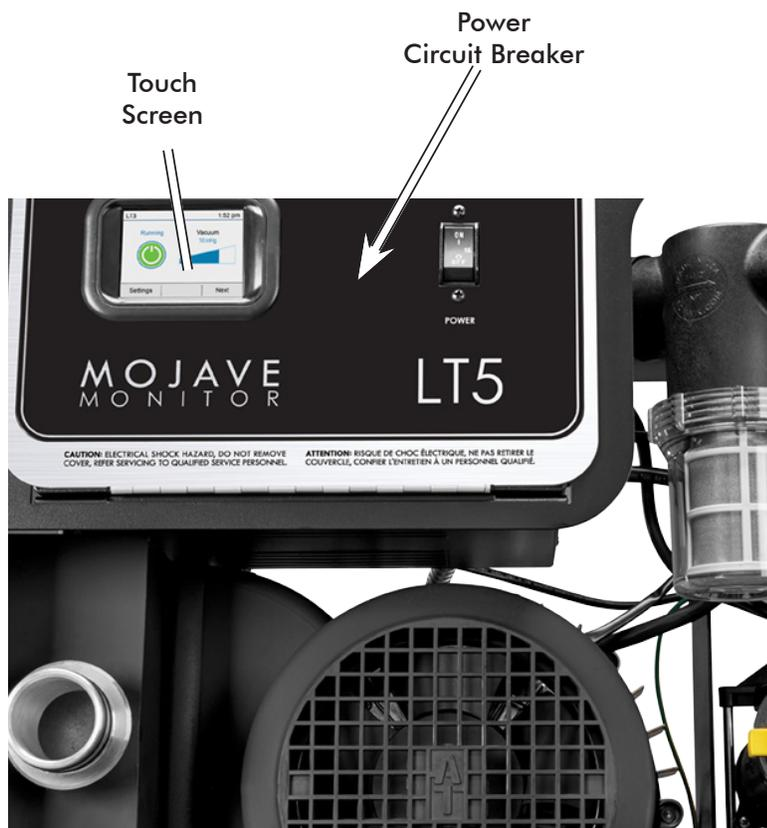

Figure 10. MOJAVE LT Front Panel Controls and Indicators
4. **System Electrical Connections.** Refer to the Electrical Connections section (See Figure 9.) and connect the pump to 220V facility power. Refer to Figures 10 and 11 when connecting the low power remote switch. Do not use a high voltage switch to turn power off remotely. Unit must remain powered at all times.
Figure 10 shows the wiring of the electrical BX cable used to connect the LT directly to facility input power.
As shown by Figure 10, connections are made via connectors J4 and J6 of the main board.